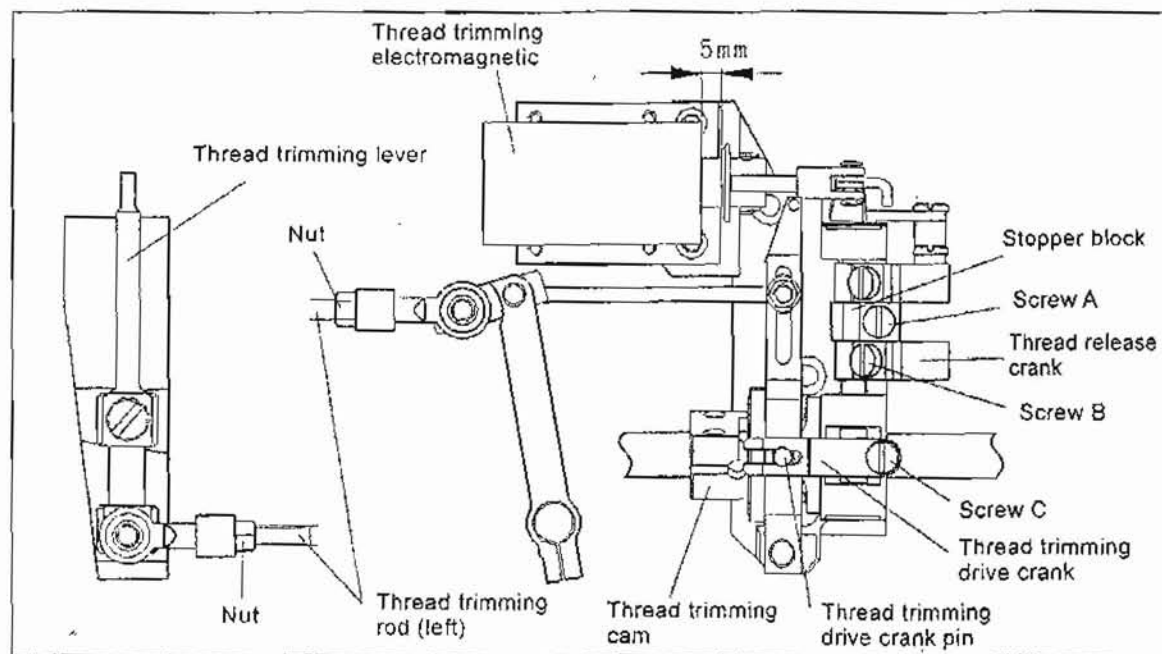

Fig.24
1)Lean the machine head backward, screw out the bottom cover screw (1) of hook saddle, open bottom cover (2).
3)Loosen thread finger cam screw (3), adjust thread finger cam (4), make thread finger site on the nearest position of hook, and then retighten thread finger cam screw.
4)Loosen hook opener screw (5), adjust the distance between thread finger and hook is 0.3-0.4mm.
33. The thread trimming device adjustment(Fig.24)